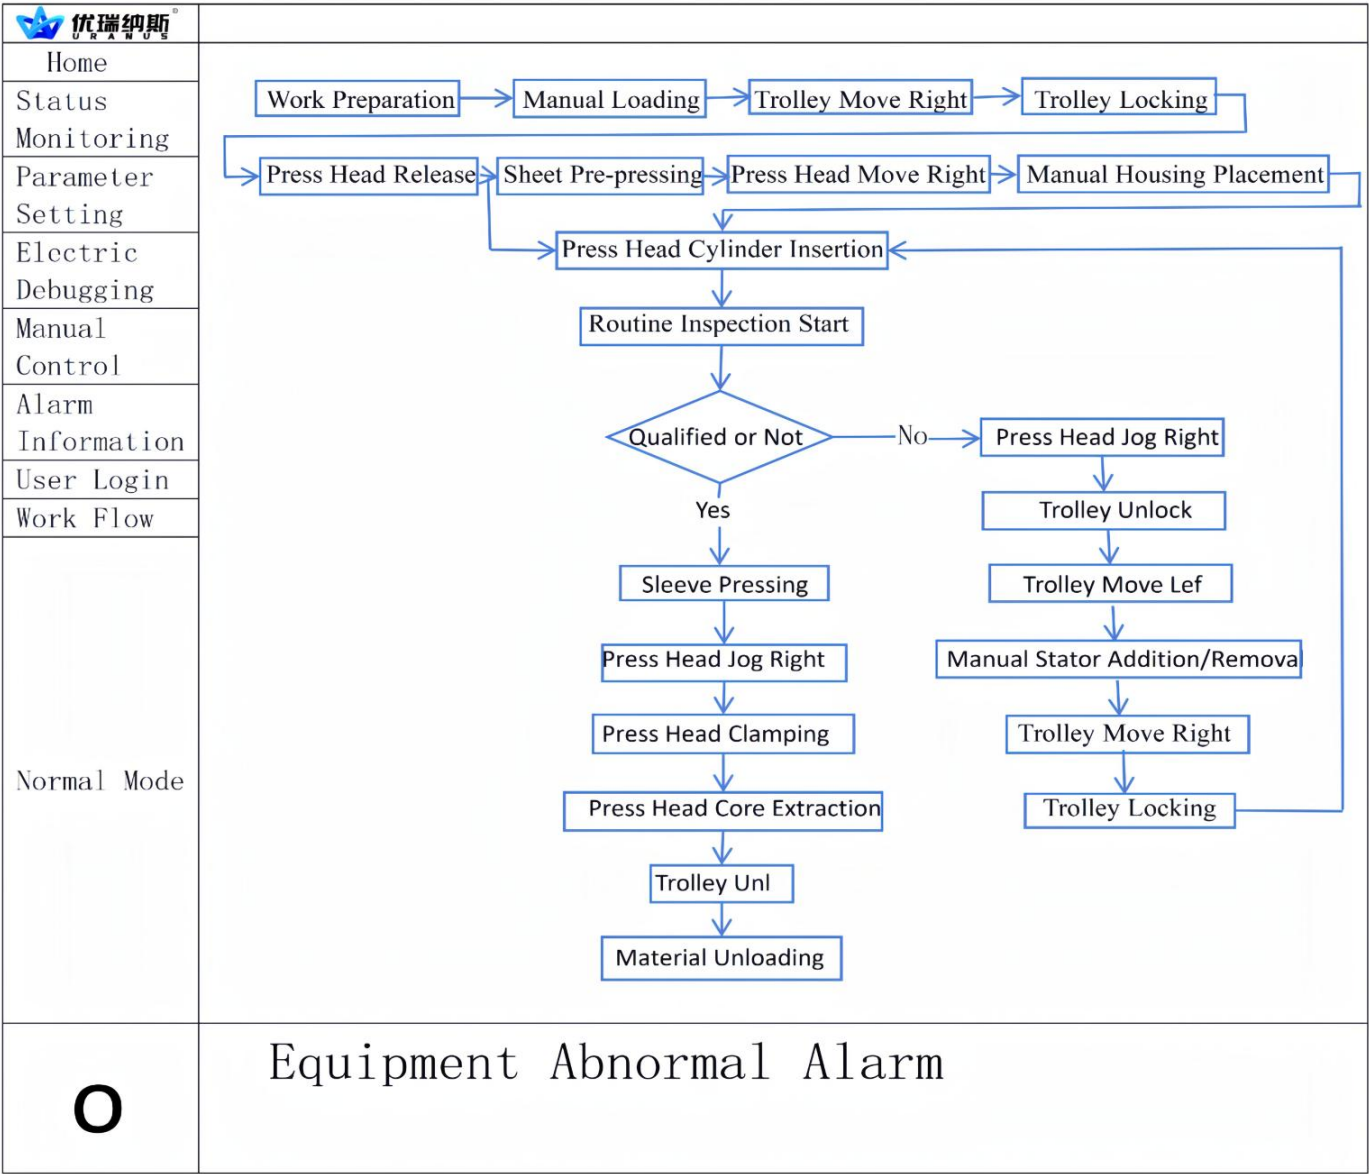

Figure 4 Assembly Process Flow of Submersible Oil Motor
2.2 Machine Assembly Process Flow (See Figure 4)